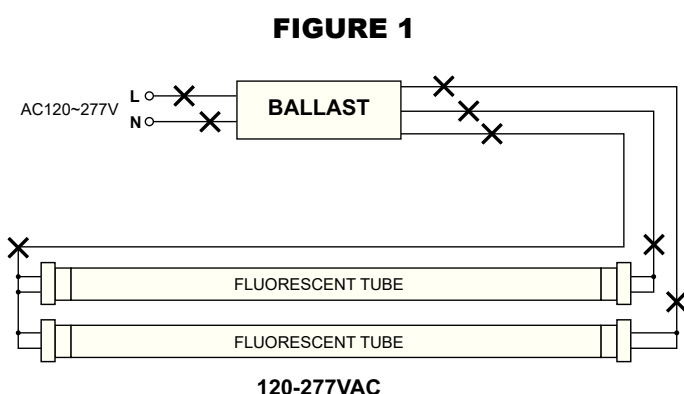

FIGURE 1
3. Disconnect power supply wires L (line) and N (neutral) to the ballast and leads from the ballast to the fluorescent sockets as shown in Figure 1.